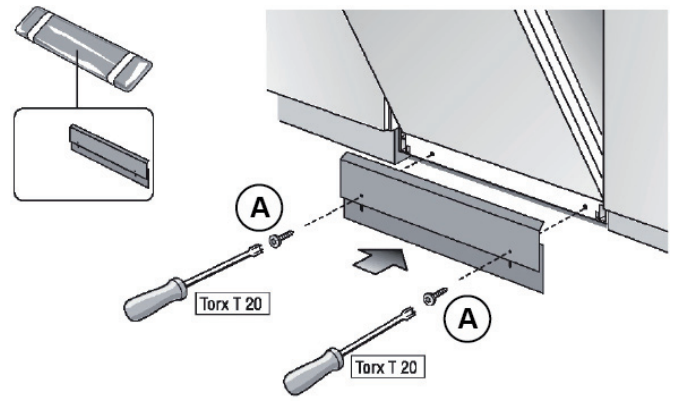

Figure 24
3. Drive the two black screws (A) through the holes in the toe panel to secure. Use the supplied screws to avoid damaging the dishwasher. See **Figure 24**.